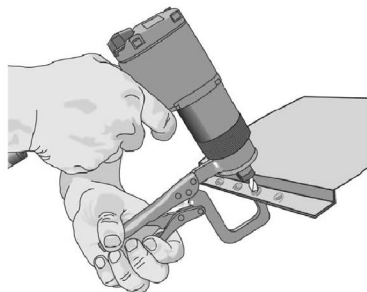

Fig. 3
1. Alter the thickness of the G-clamp (F) by using the adjuster (G).
- a. The G-clamp can be removed entirely by unscrewing the securing collar (D).
2. Use the G-clamp to hold the workpiece in place while you operate (Fig. 3).